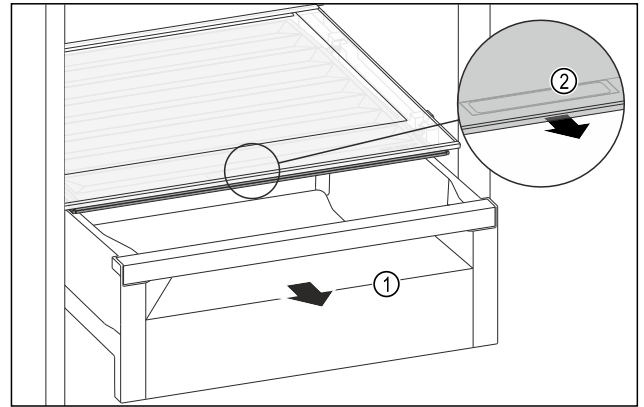

Fig. 122
- Pull out the drawer *Fig. 122 (1)*.
- Grip the handle recess *Fig. 122 (2)* on the lid while pulling the lid forward at the same time.